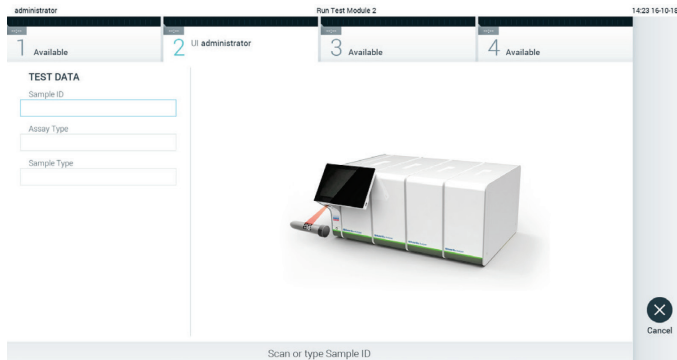

Figure 69. Scanning the sample ID bar code.
2. When prompted, scan the sample ID bar code using the bar code reader that is integrated into the Operational Module (Figure 69, next page).